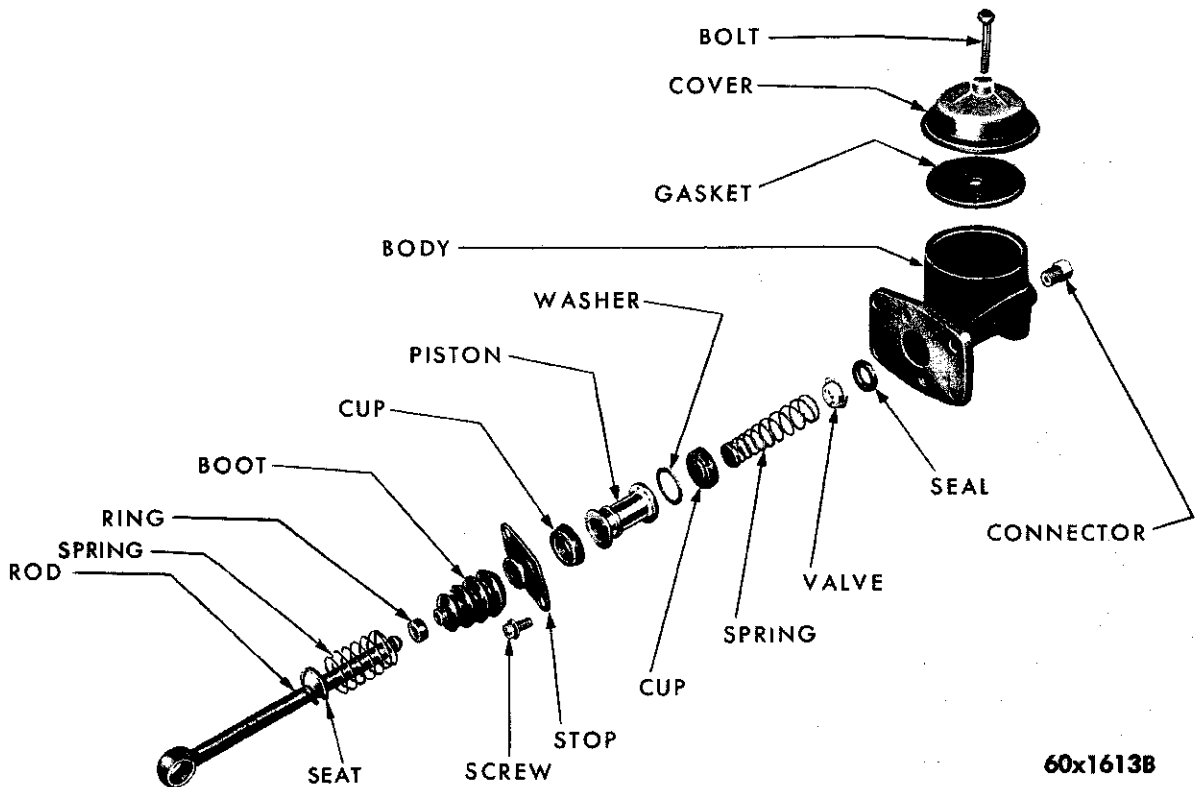

Fig. 7—Master Cylinder Assembly (Disassembled)
Disassembly (Fig. 7)
Clean the outside of the master cylinder thoroughly, then remove the cover and drain all the brake fluid. Refer to Figure 7 and disassemble the master cylinder for inspection as follows:
(1) Install the seal check valve and spring in the cylinder with the valve toward the outlet of the cylinder (Fig. 7).
(2) Install the master cylinder cup in the cylinder with the open end of the cup over the closed end of the return spring.
(3) Install the secondary cup on the master cylinder piston and install the piston and push rod assembly in the cylinder with the flat brass washer between the piston and the cup.
(4) Install the dust boot on the push rod and install the stop flange screws.